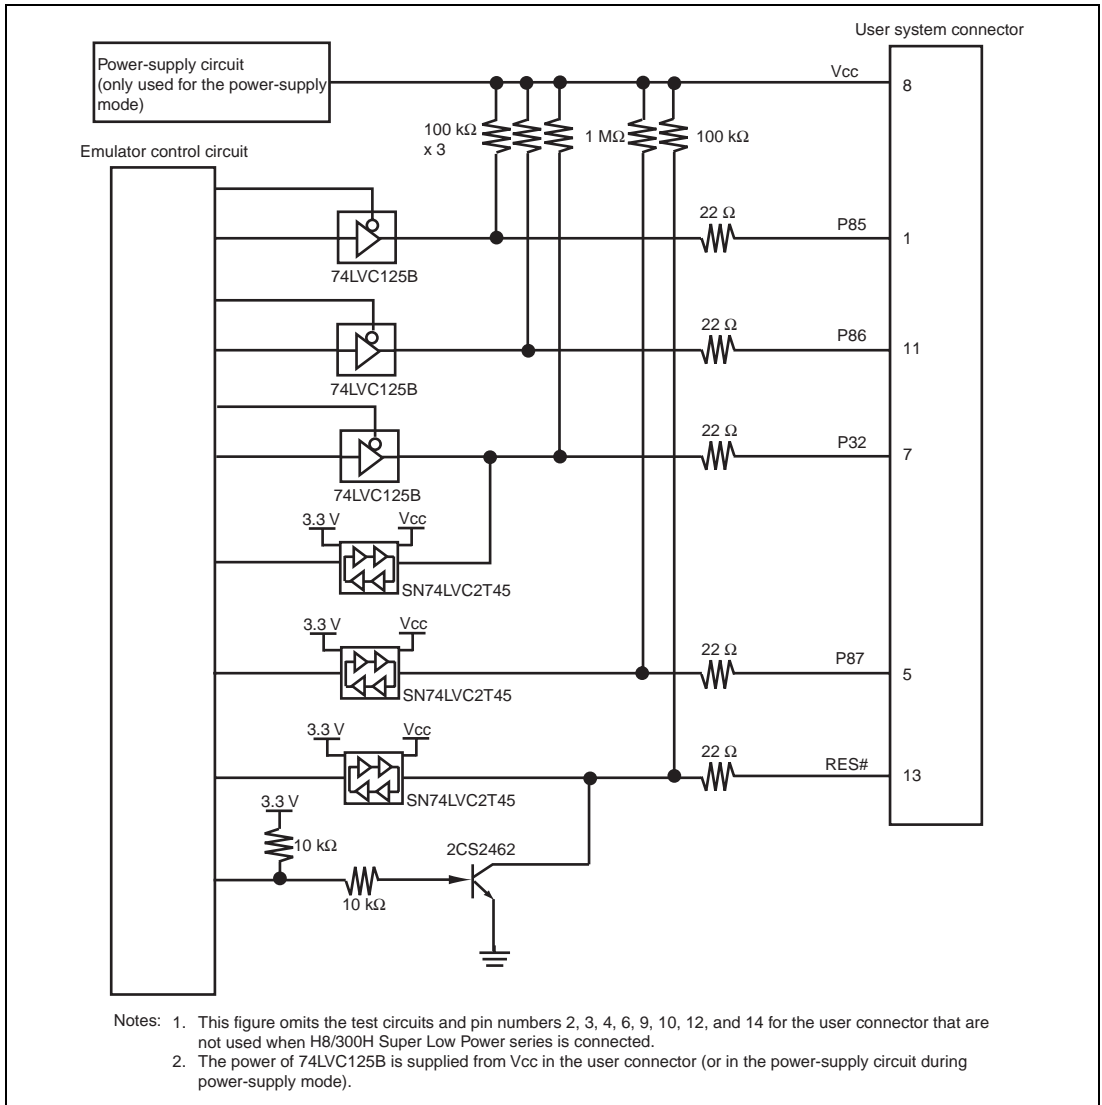

Figure 4.5 Interface Circuit in the E8a Emulator (Reference)
7. Figure 4.5 shows the interface circuit in the E8a emulator. Use this figure as a reference when determining the pull-up resistance value.